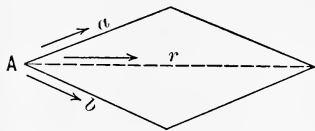

FIG. 22. — Parallelogram of Forces.
forces (a) and (b) act on a body at A as in Fig. 22, draw the line in the direction of the forces and lay them off to some convenient scale. Complete the parallelogram as in 22, and the diagonal represents the resultant force both in direction and size. A third
1. Neglecting weight of b , Fig. 27, what is the tension on c ? Compare with Fig. 22.
Only a stick, string, and spring balance required to illustrate several important applications of physics in trusses, hoisting cranes, etc. Every student of physics should experiment with several combinations, and apply his results to many local illustrations. See Figs. 22 and 23.